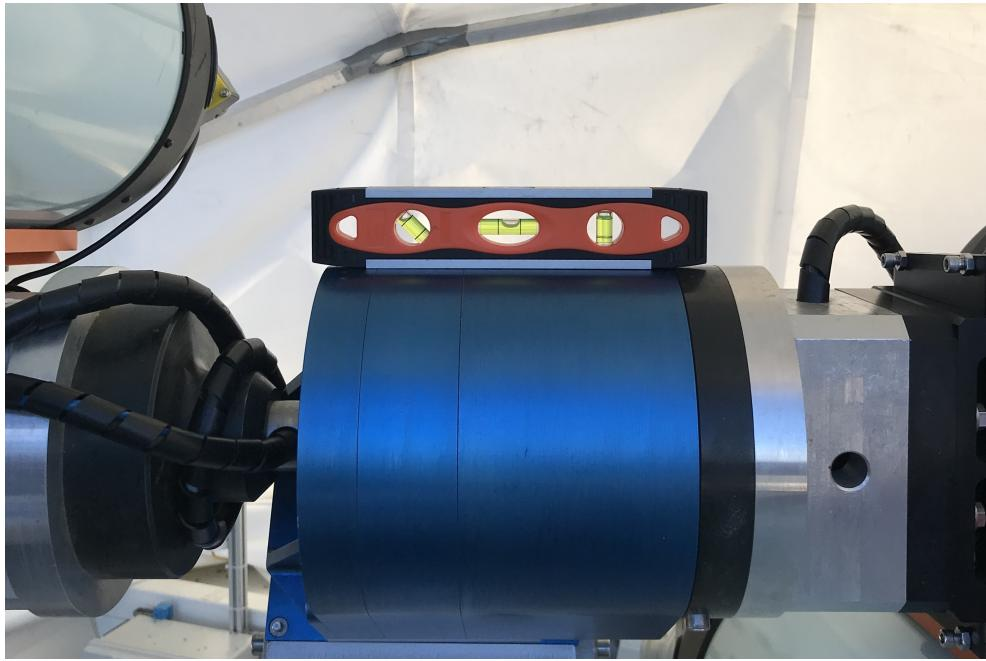

Figure 14.1: Using the spirit level to make sure that the declination axis is horizontal.
5. Point the telescope to the northern horizon. Verify that the declination axis is horizontal using the spirit level. See Figure 14.1.